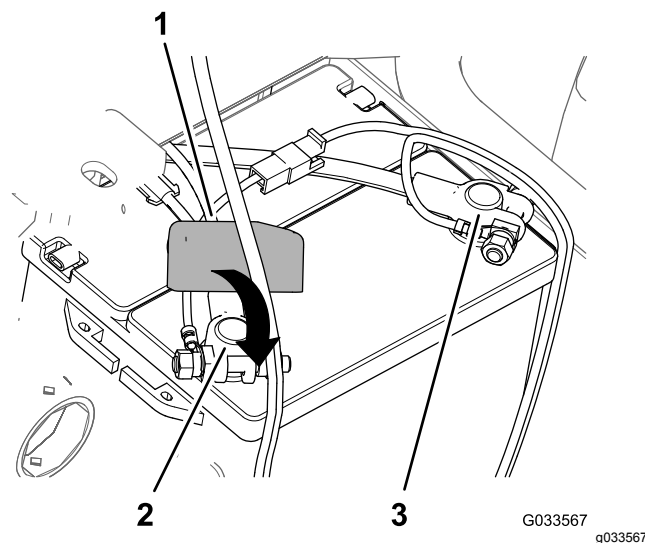

Figure 32
8. Assemble the positive battery cable onto the **positive** battery post and tighten the clamp nut by hand (Figure 32).